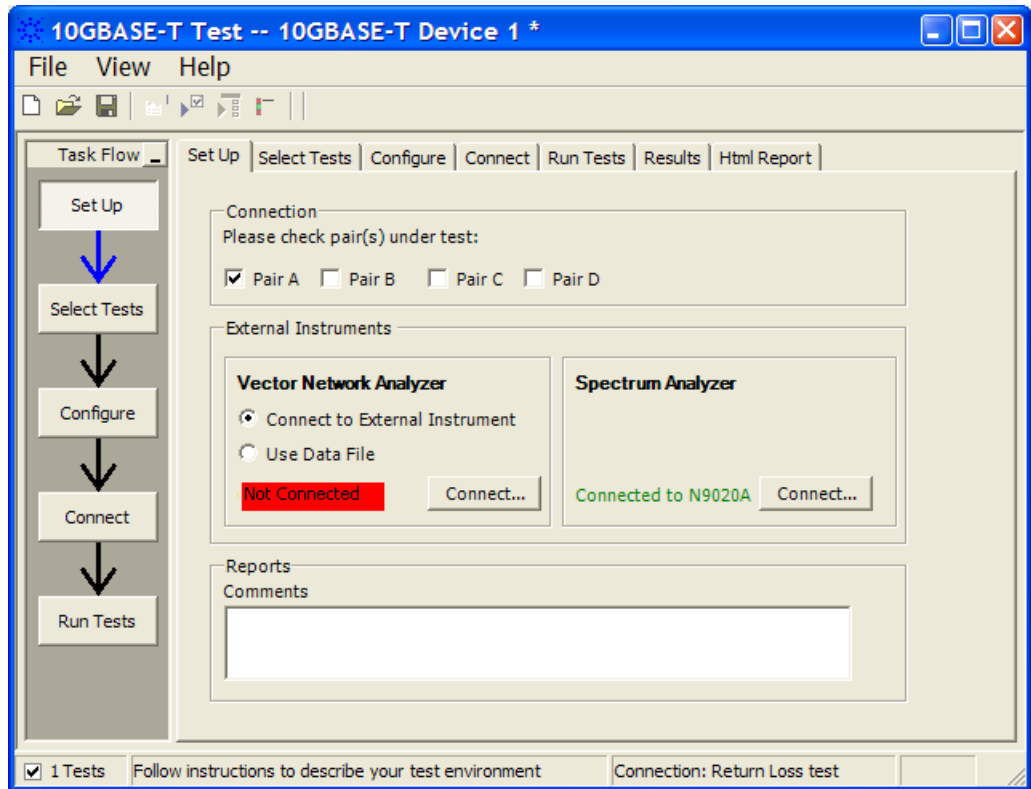

Figure 25 Setup page after application has detected the spectrum analyzer
- Once the application detects the spectrum analyzer, it is indicated on the Setup page as shown in Figure 25 below.